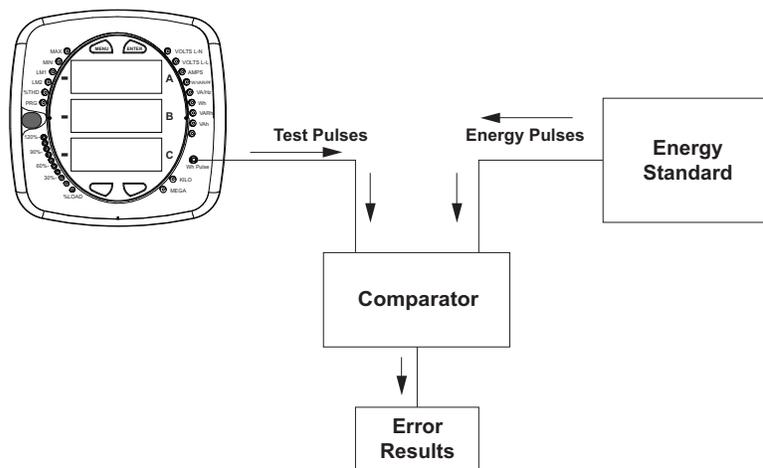

Figure 12.2: Using the Watt Hour Test Pulse
- Refer to Figure 12.2 for an example of how this process works.